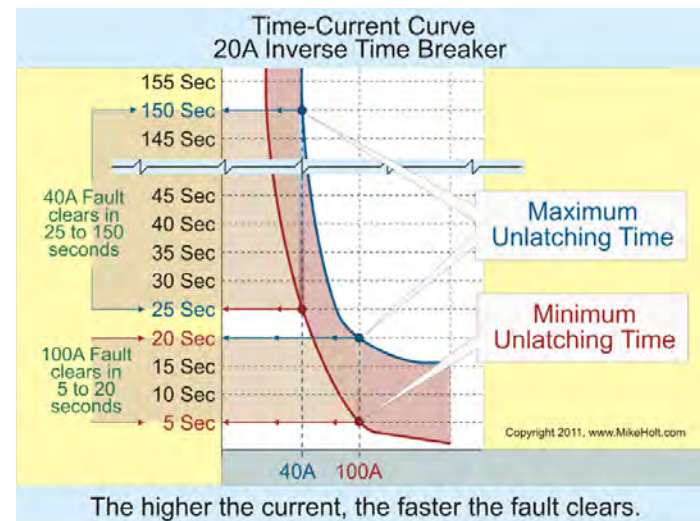

Figure 250-15
- The time it takes for an overcurrent device to open is inversely proportional to the magnitude of the fault current. This means the higher the ground-fault current value, the less time it will take for the overcurrent device to open and clear the fault. For example, a 20A circuit with an overload of 40A (two times the 20A rating) takes 25 to 150 seconds to open the overcurrent device. At 100A (five times the 20A rating) the 20A breaker trips in 5 to 20 seconds. **Figure 250-15**